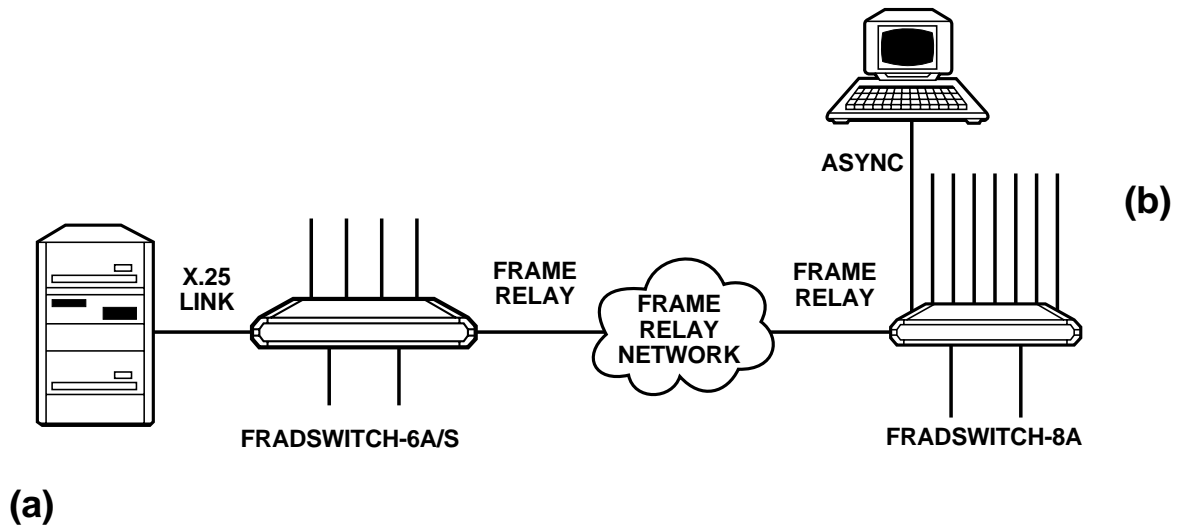
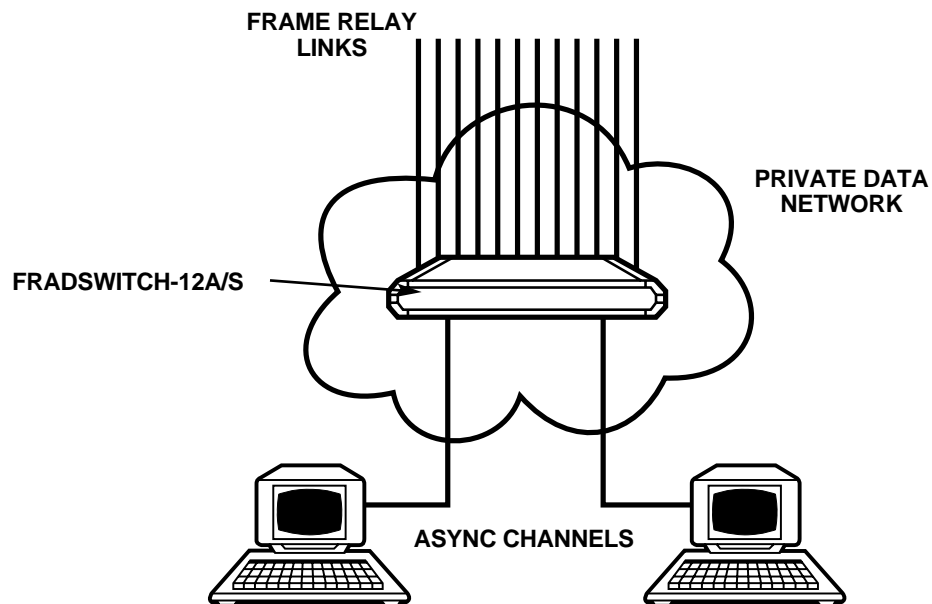

Figure 2-4. (a) Fradswitch-6A/S operating as a switch at the user side: Conversion of Frame Relay to X.25.
Figure 2-5. Fradswitch-12A/S serving as a backbone for Frame Relay private data network.
- Running asynchronous data in X.25 packets over Frame Relay. (See **Figure 2-4, part a.**)
- Running asynchronous data directly over Frame Relay (SLIP protocol over Frame Relay). (See **Figure 2-4, part b.**)
(See **Figure 2-5**.)
When a link is configured for Frame Relay, packets are processed as follows. If the Fradswitch is located at the user side (acting as an end device), the received Frame Relay packets are converted into async or X.25 format and are routed to the appropriate port. (See **Figure 2-4**.) If the Fradswitch is located at the network side, the received Frame Relay packets are routed to another Frame Relay link. (See **Figure 2-5**.)